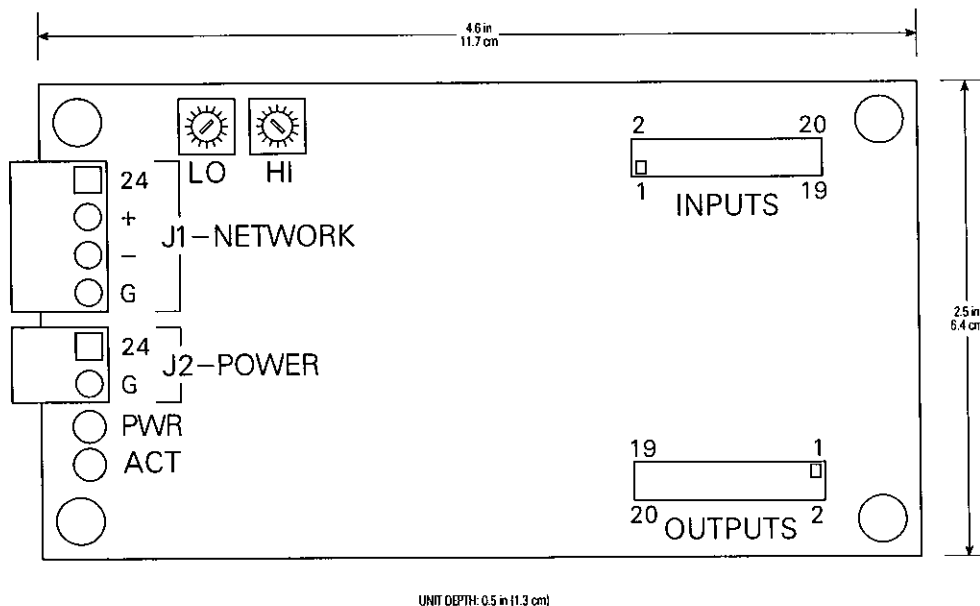

Figure 1. CNPI-16B, Custom Panel Interface
The CNPI-16B is a circuit board that can be housed in any enclosure with the appropriate dimensions (refer to figure 1). There are four mounting holes, one at each corner of the board. The board contains two LEDs, two 20-pin male connectors, a 4-pin male connector, and a 2-pin male connector.
There are two LED indicators located on the CNPI-16B, refer to figure 1.
1. Locate the two miniature rotary switches labeled HI and LO on the front face (refer to figure 1). The switches are located in the upper left corner of the board. The right rotary switch (HI) represents the most-significant digit or number of the ID CODE and the left rotary switch (LO) represents the least-significant digit or number of the ID CODE. Each 16-position rotary hexadecimal switch can be set to a value ranging between 0 and F.